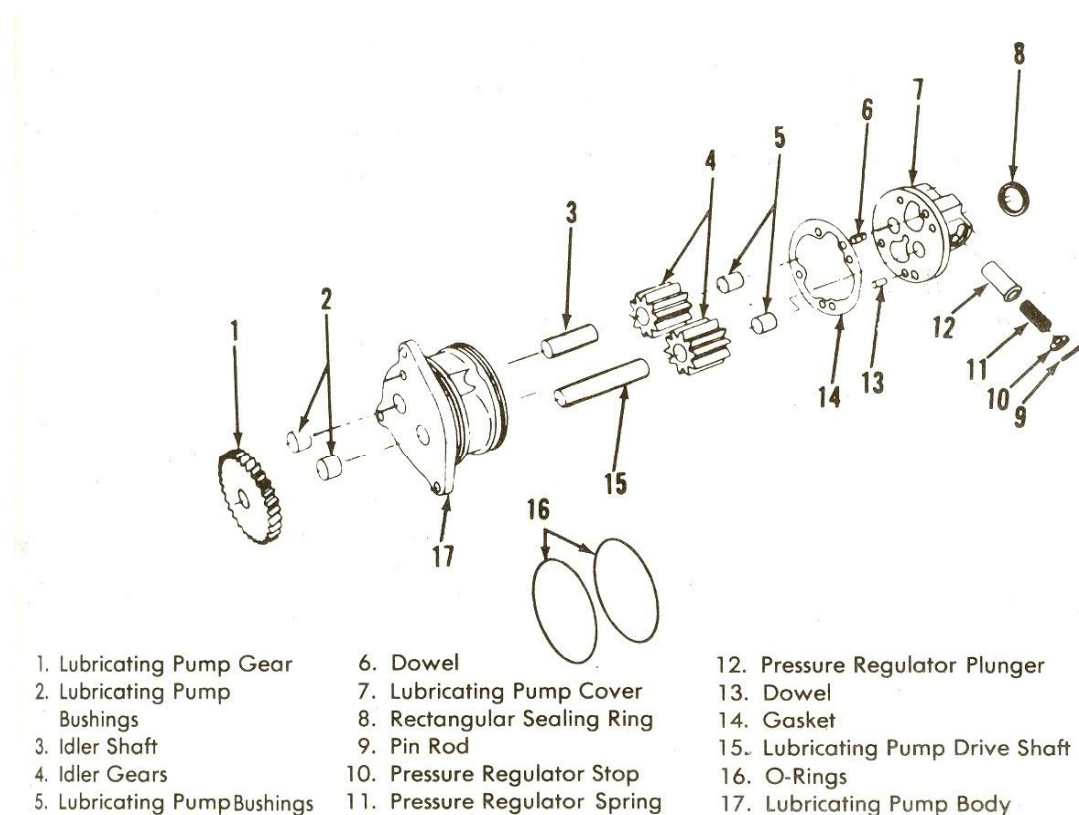

Fig. 7-1. Lubricating Oil Pump
1. Remove the cover (7, Fig. 7-1) from the pump body, (17). Use a soft hammer to loosen from the dowels (6 and 13).
2. Remove the idler gears (4) and the shafts (3 and 15) from the pump body (17).
3. Use a puller to pull the pump gear (1) from the shaft and body.
4. Remove the roll pin (9), stop (10), spring (11) and pressure regulator (12) from cover (7).
1. Put the drive shaft (3) and the idler gear (4, Fig. 7-1) through the bushing in the pump body (17).
2. Put the assembly on the end of the drive shaft and then press the pump gear (1) onto the shaft with a 0.130 to 0.150 inch (3.30 to 3.81 mm) clearance between the gear and pump body. See Table 7-1 (3). After the pump gear is pressed into position, the drive shaft is to have 1.030 to 1.050 inch (26.16 to 26.67 mm) protrusion above the cover surface of the pump body. See Table 7-1 (4).
3. Put the other idler gear (4) and the idler shaft (15) into the pump body and bushing.
4. Install the cover (7) to the pump body (17). Tighten the cap screws to 30 to 35 ft-lbs (41 to 47 Nm) torque.
5. Install the pressure regulator valve (12) spring (11) and stop (10) and secure with the snap ring (old style). New style regulators that use a roll pin instead of a snap ring must have the sport plug pressed in flush with the pump cover gasket surface.